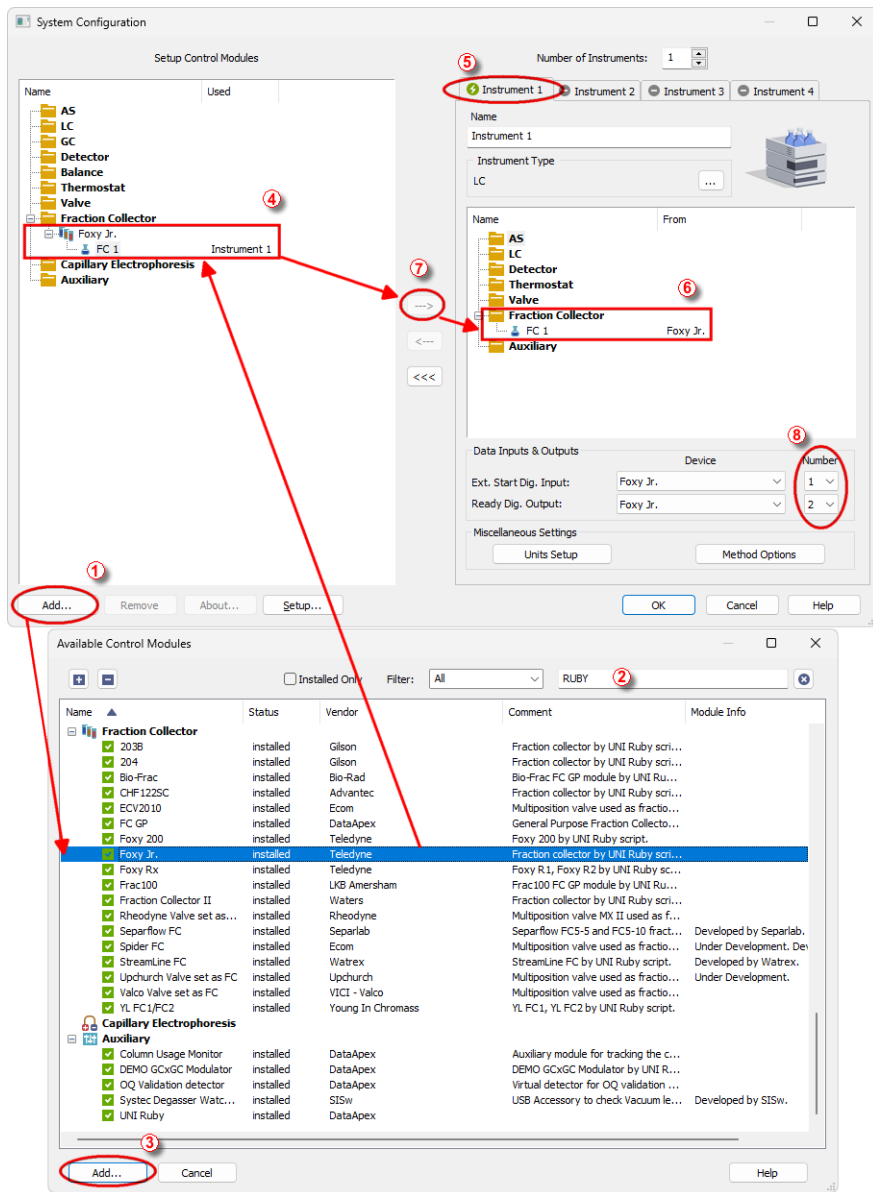

Fig. 3: How to add Teledyne Foxy Jr
- Press the **Add** button (① on **Fig. 3** on pg. 4.) to invoke the *Available Control Modules* dialog.
- You can specify the search filter (②) to simplify the finding of the driver.
- Select the correct item and press the **Add** (③ on **Fig. 3** on pg. 4.) button. Each device with already created UNI profile should have its own item named accordingly in the *Available Control Modules* dialog.